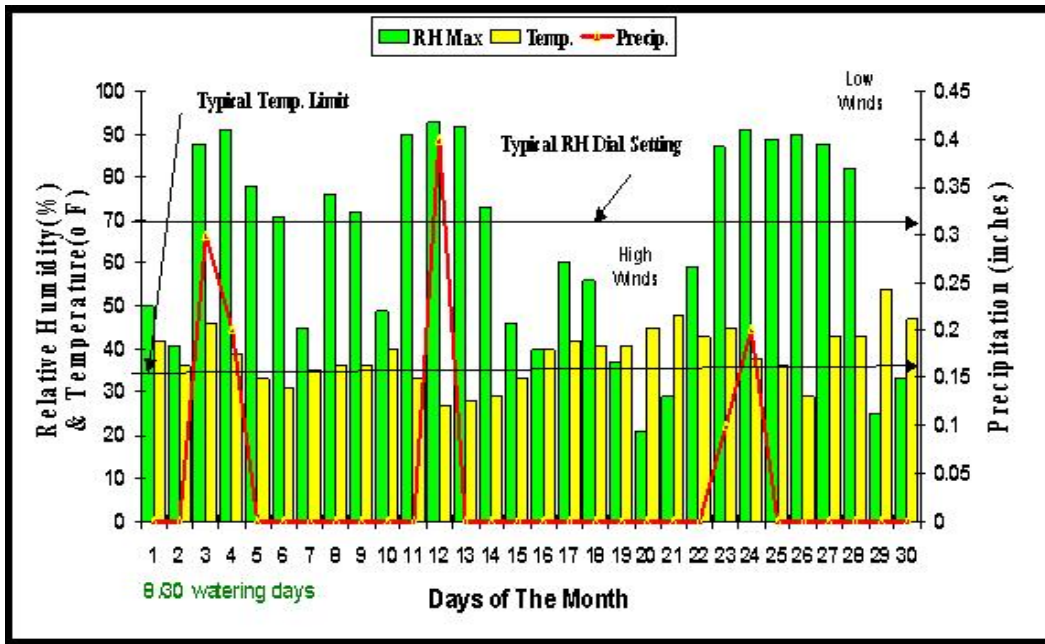

Figure 12 - Weathermiser performance related to weather data
The performance of the Weathermiser controller is illustrated by the graph shown in Figure 12. The maximum relative humidity (RH) and average temperature information is actual weather data from a Western Regional Climate Center weather station. The graph illustrates the Albuquerque, New Mexico daily interrelationship between relative humidity, temperature and precipitation for the